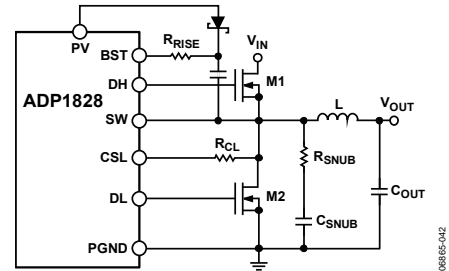

Figure 41. Application Circuit with a Snubber
In any high speed step-down regulator, high frequency noise (generally in the range of 50 MHz to 100 MHz) and voltage overshoot are always present at the gate, the switch node (SW), and the drains of the external MOSFETs. The high frequency noise and overshoot are caused by the parasitic capacitance, C_{gd} , of the external MOSFET and the parasitic inductance of the gate trace and the packages of the MOSFETs. When the high current is switched, electromagnetic interference (EMI) is generated, which can affect the operation of the surrounding circuits. To reduce voltage ringing at the drain of the MOSFET, an RC snubber can be added between SW and PGND, as illustrated in Figure 41. In most applications, R_{SNUB} is about 2 Ω , and C_{SNUB} about 1.2 nF. R_{SNUB} and C_{SNUB} can be calculated using the following equations:
In most applications, a size 0805 component is sufficient. The use of the RC snubber reduces the overall efficiency, generally by an amount in the range of 0.1% to 0.5%. However, the RC snubber cannot reduce the voltage overshoot. A resistor, shown as R_{RISE} in Figure 41, at the BST pin can help to reduce overshoot and is generally between 1 Ω and 5 Ω .